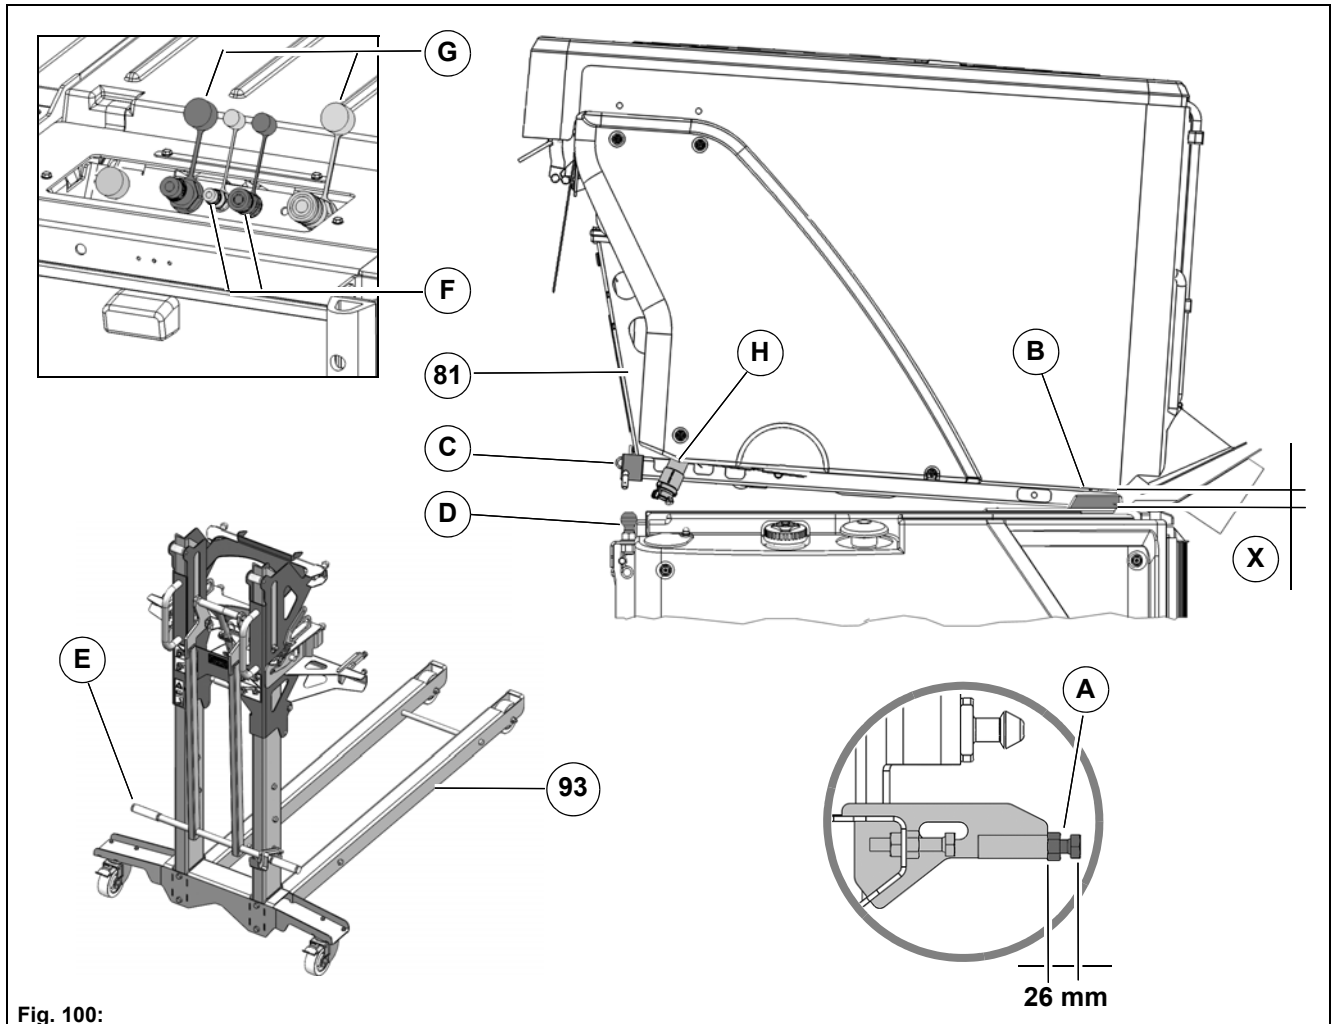

Fig. 100:
- Position the dirt hopper over the rear wagon and check the gap size **Fig. 100-X** with 5-10 mm. If necessary, correct with the screw **Fig. 100-A**.
- Push the rollers of the dirt hopper up into the pockets **Fig. 100-B**.
- The fixed bearings **Fig. 100-C** of the dirt hopper and the holders **Fig. 100-D** of the rear wagon must be in alignment.
10. Unlock the lever **Fig. 100-E** of the trolley **Fig. 100-93** and swing it into the upper position. Let the dirt hopper down slowly! Withdraw the trolley and close the lid.
- Lift system hydraulic cylinder – supply/return = **Fig. 100-F**
- Suction fan hydraulic motor – supply/return = **Fig. 100-G**
- Circulating water = **Fig. 100-H**